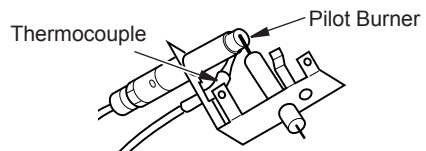

Figure 19 - Pilot
8. Light pilot burner with a match, (see Figure 19).